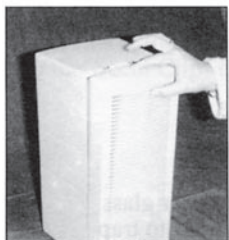

fig. 2
3. Press and release the filter cover (fig. 2).